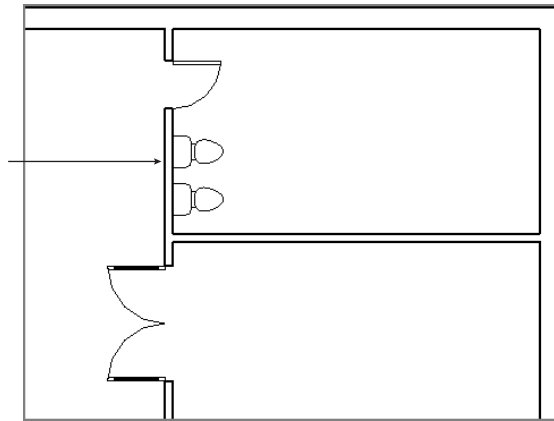

FIGURE 5.8 Placing hosted components in a model
3. In the room at the upper right in the layout, place two of the `c05-WC-Hosted` families on the wall at the left side of the room (Figure 5.8). Notice that you can place these components only on a wall.
5. Delete the wall segment where you placed the components in step 3 (indicated in Figure 5.8).